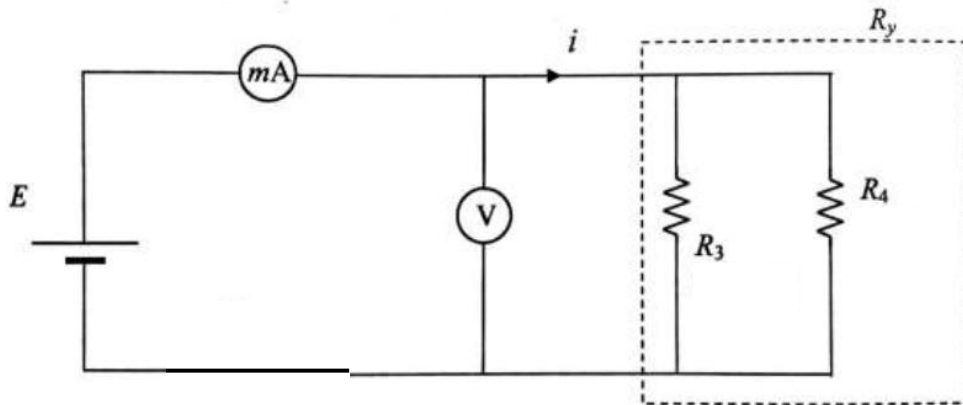

Figure 05: Resistors in Parallel
- Repeat the above steps for Figure 05.